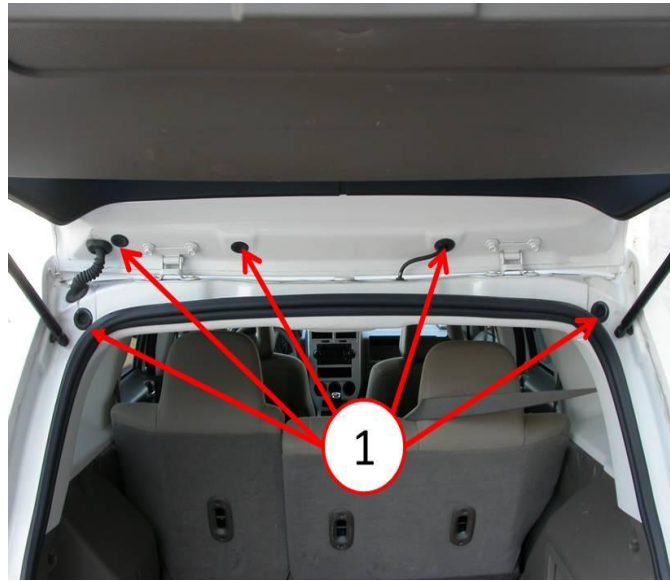

Fig. 10 Grommets And Plugs
4. At the rear check all body plugs and grommets (Fig. 10) and verify they are properly seated.